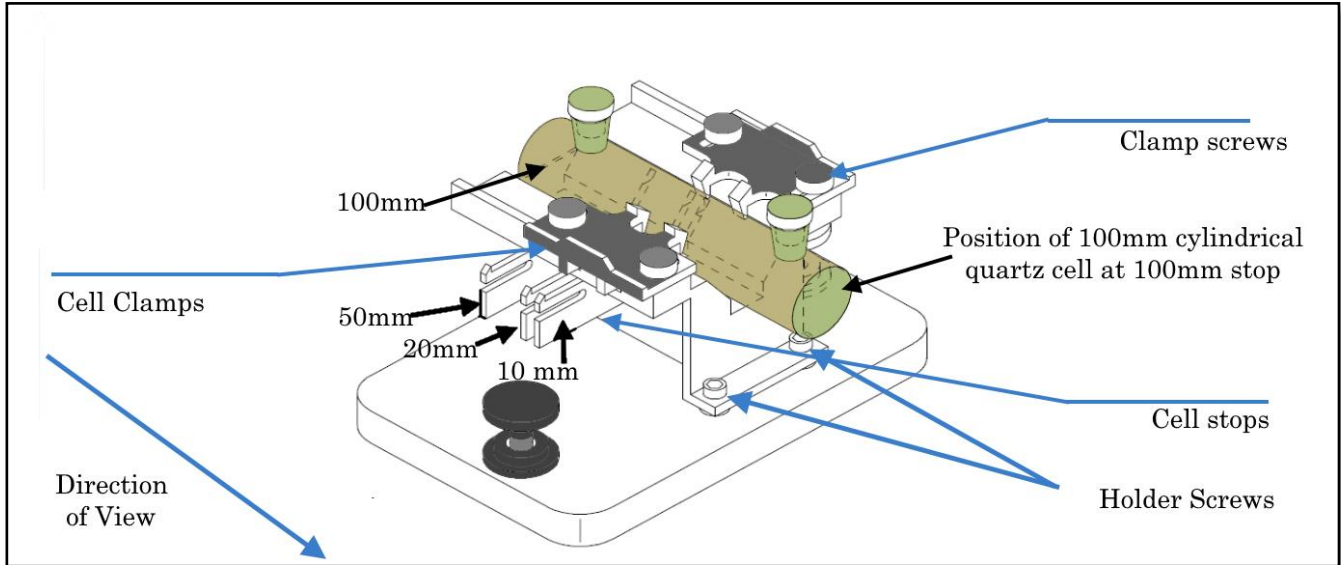

Figure 2
- Allow the clamps to close against the sample cell, as in Figure 2. Tighten the four screws that hold the sample cell in place.